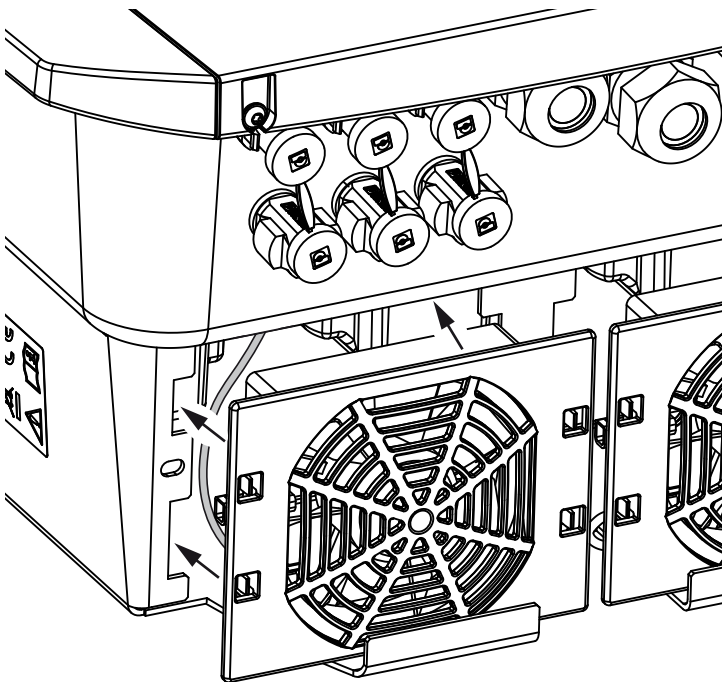

Fig. 73: Fan installation
- the fan must be correctly installed in the fan frame (air flow direction). **↗ Fig. 73**